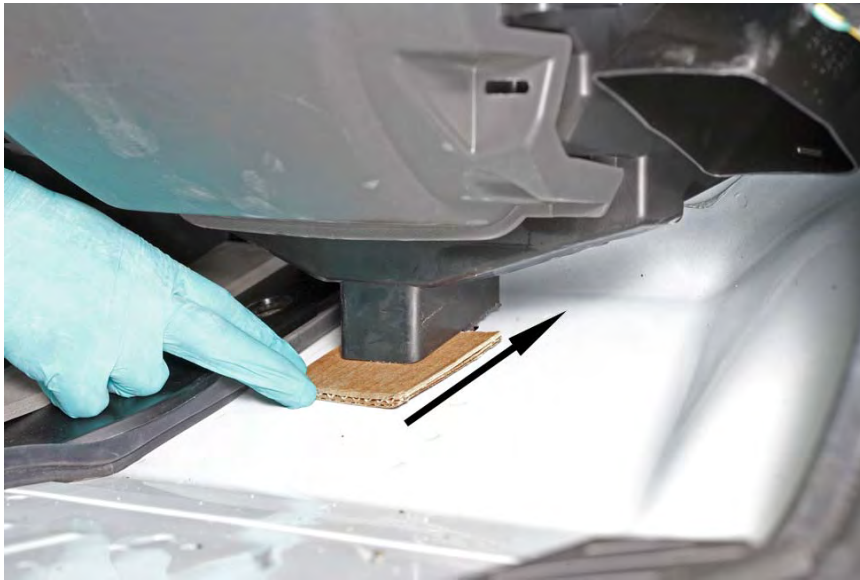

Figure 29 Placing Cardboard Between HVAC Module and Floor
- c. Slide the cardboard / credit card from the firewall side completely under the HVAC housing to ensure it is not folded under. You will be able to see the drain valve end as you slide the cardboard / credit card under the module between HVAC Module and Floor (See Figure 29, page 23).